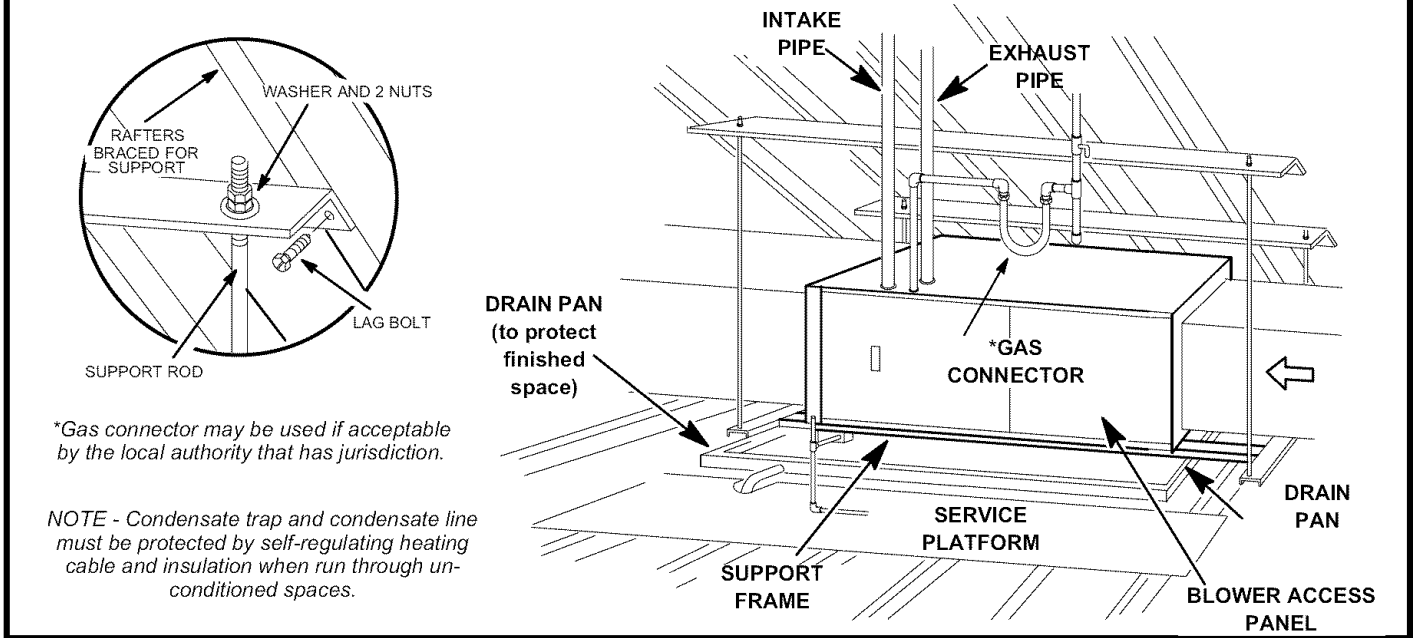
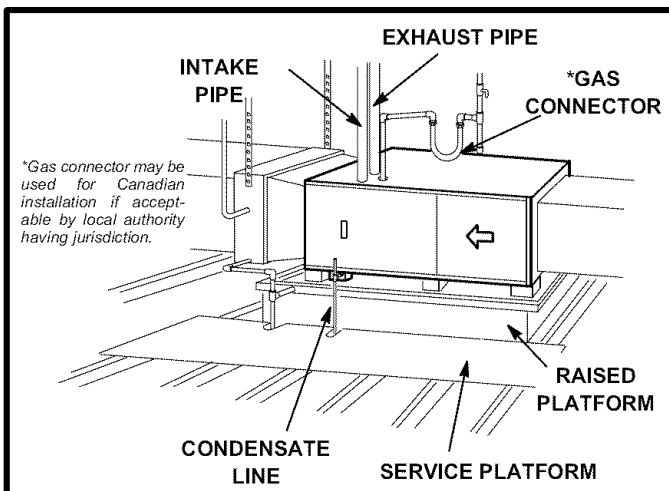

FIGURE 18
FIGURE 19
This furnace may be installed in either an attic or a crawl-space. The G61MP may also be installed as a unit heater. Either suspend the furnace from roof rafters or floor joists, as shown in figures 18 or 17, or install the furnace on a field-fabricated raised platform, as shown in figure 19. The unit must be supported at both ends and beneath the blower deck to prevent sagging.
- 3 - Set unit in drain pan as shown in figure 19. Unit must be level to ensure proper coil drainage. Leave 5-1/2 inches for service clearance below unit for condensate trap.